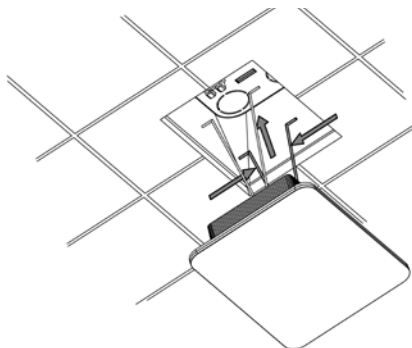

Figure 13
4. Squeeze the retention springs on the back of the fixture and fit them into the junction box (**Figure 13**). Insert the fixture into the junction box and affix it to the ceiling, being careful not to pinch the pigtail/LED power cable (note that the pigtail/control LED power cable is not shown in **Figure 13**). Press firmly around edges of the fixture to ensure adhesion to ceiling.